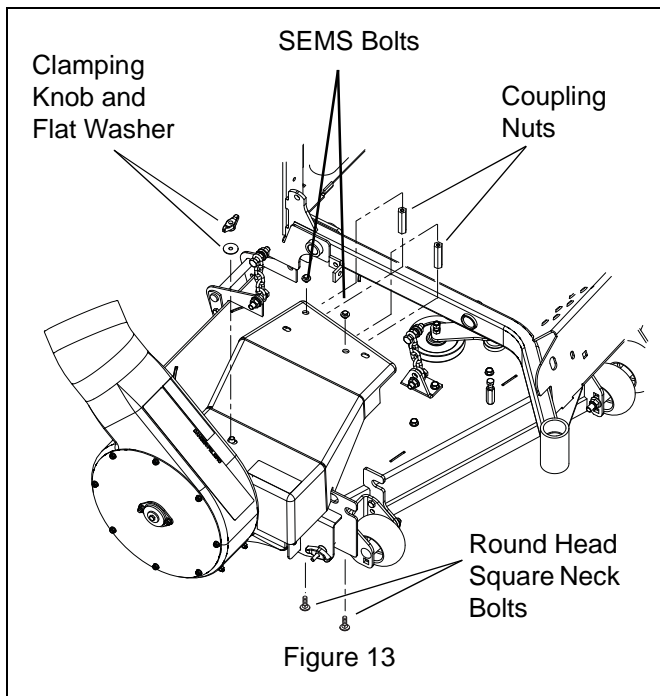

Figure 13
5. Install the two coupling nuts to deck with two .31-18 x .75 round head square neck bolts with Loctite patch as shown in Figure 13.